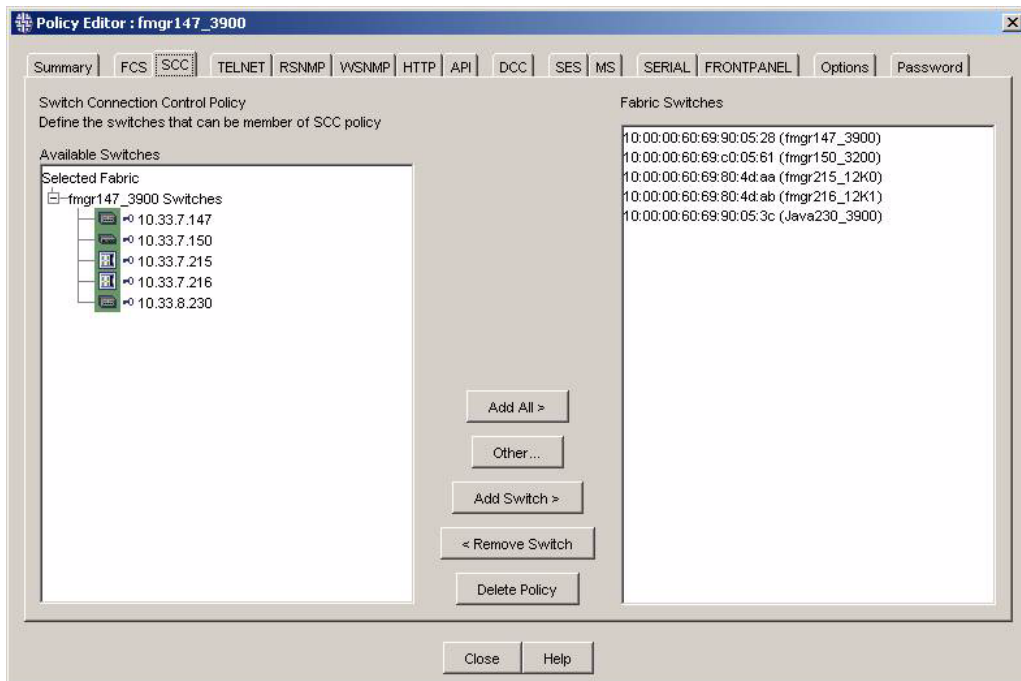

Figure 175 Configuring the SCC policy
3. Select the **SCC** tab (see Figure 175).